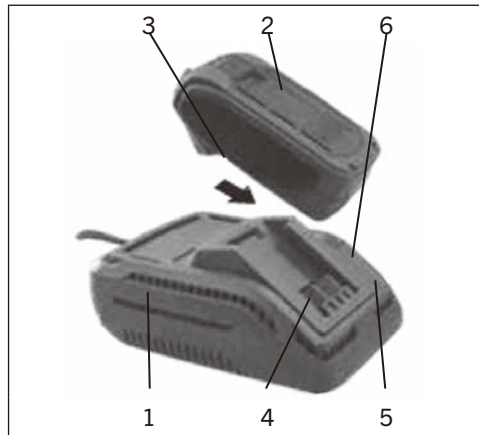

FIG. 1
1. Do not cut branches beyond the specified diameter indicated, do not cut hard items such as metal, stone or any (Fig. 1) other non-plant materials. If the blades are worn or damaged, please replace the blades.
1. Place the battery charger (1) in a dry location near a 110–120V 60 Hz electrical outlet (Fig. 1).